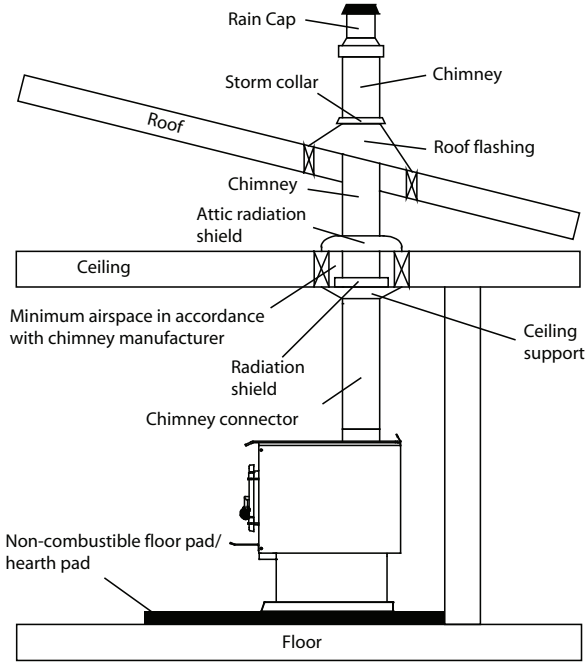
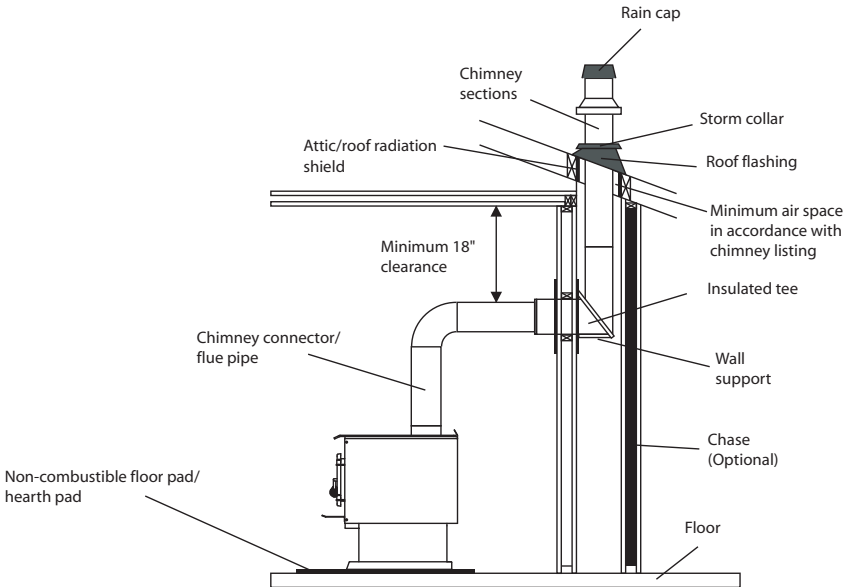

Figure 5. Standard ceiling installation.
Figure 6. Horizontal installation.
5. Install all the components as shown in Figure 5 or Figure 6. Roof braces may be required if the chimney extends too high above the roof.